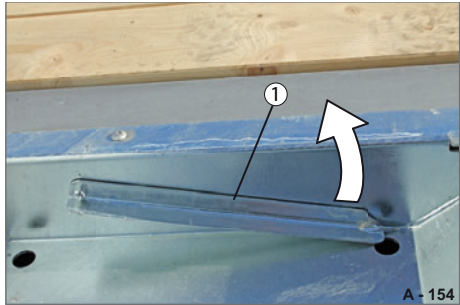

Fig. 72 Securing lid
- ▶ Swivel open the limit position (Fig. 72/1) (to the side in storage compartment).